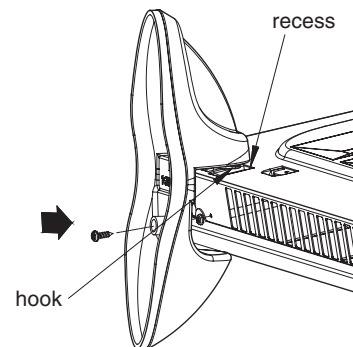

Fig. 2
3. Place the feet over the base of the heater, align holes and engage hook on foot into recess on the back of the heater - see Fig. 2.